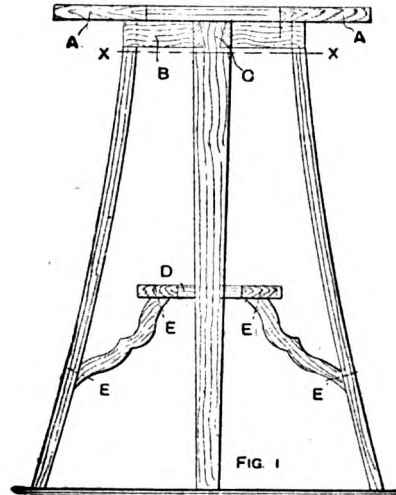

FIG. 1
**Octagonal Table.**—The wood of the octagonal table shown in elevation by Fig. 1 is all of ¾-in. thickness, the